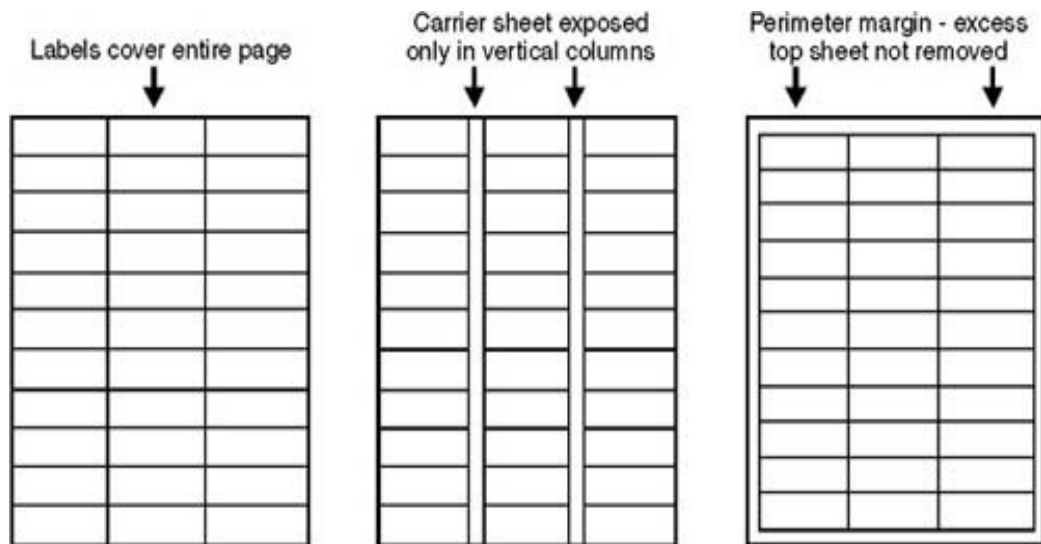

Figure 9. Adhesive labels
- **Arrangement**—Do not use labels that have exposed backing between them. Labels can peel off sheets with spaces between the labels, causing jams. See figure 9 for acceptable arrangement schemes.